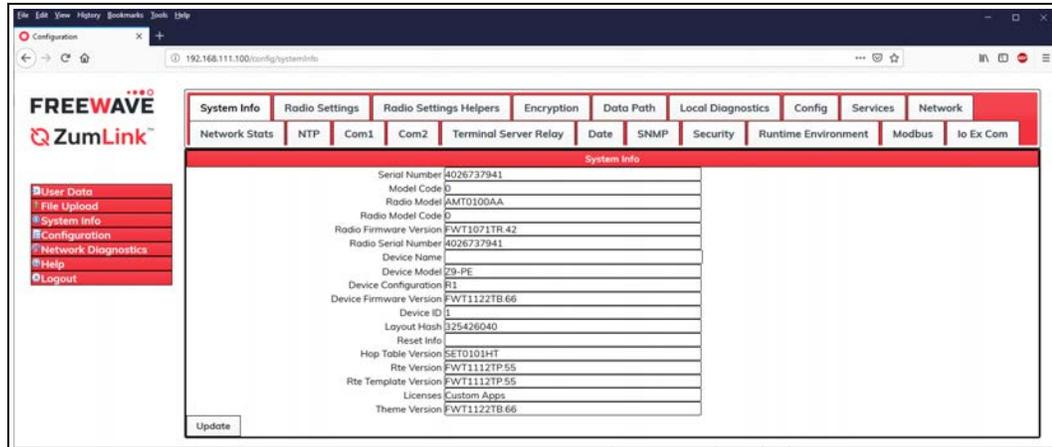

Figure 163: System Info window
6. Click the **System Info** tab to access the **System Info** parameters. Figure 163